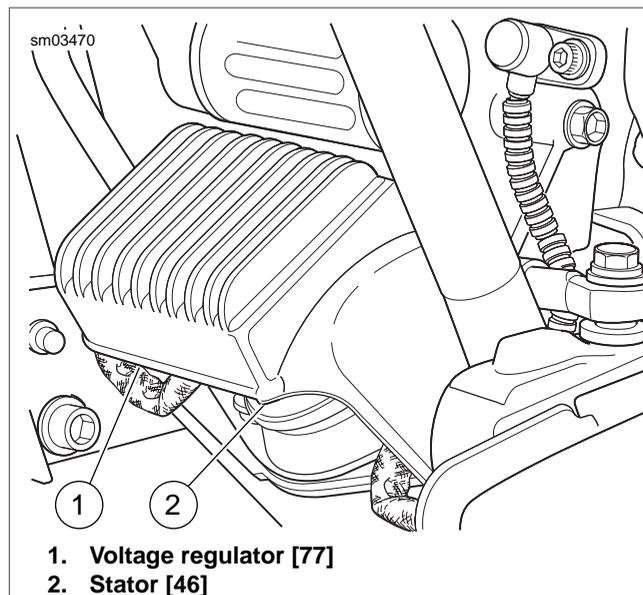

Figure 8-1. Voltage Regulator (Left Side View)
5. Capture stator connector conduit in left side P-clip. Capture voltage regulator connector conduit in right side P-clip. See Figure 8-1. Remove slack to ensure that stator conduit does not contact front engine stabilizer link.